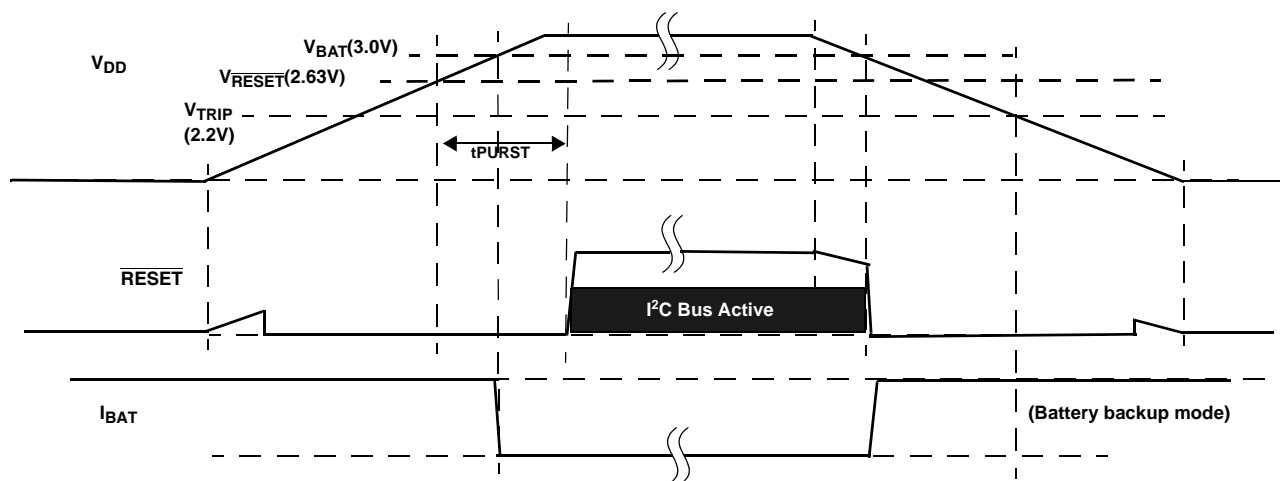

FIGURE 30. RESET OPERATION IN MODE D
- Mode D - In this mode the selection bits indicate switchover to battery backup at $V_{DD} < V_{BAT}$, and no I²C communications in battery backup. This mode is unique in that there is I²C communication as long as V_{DD} is higher than V_{RESET} or V_{BAT} , whichever is greater. This mode is the safest for guaranteeing I²C communications only when there is a Valid V_{DD} . See Figure 30.